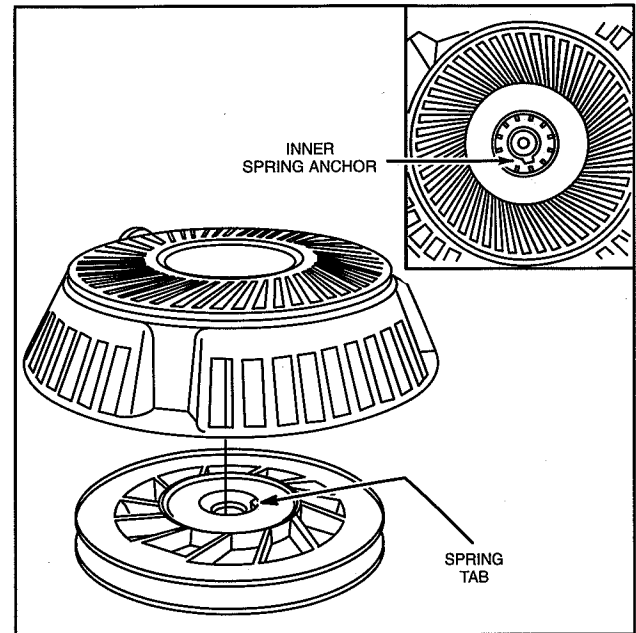

Fig. 22 – Install Pulley – Early Style
3. Lower starter housing onto pulley and spring assembly, Fig. 22.